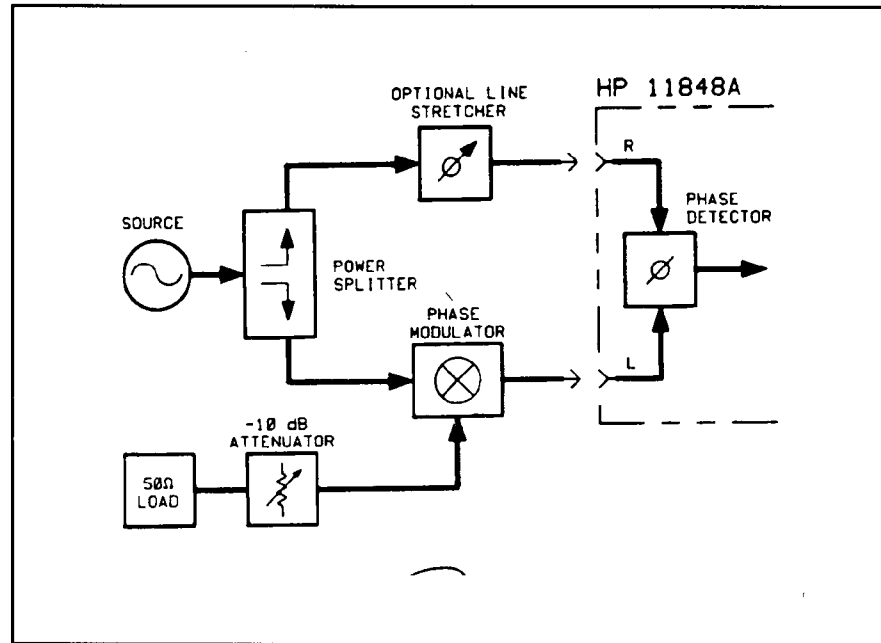

Figure 2-13. Double-Sided Spur Calibration Setup
1. Connect circuit as per figure 2-13, and tighten all connections.